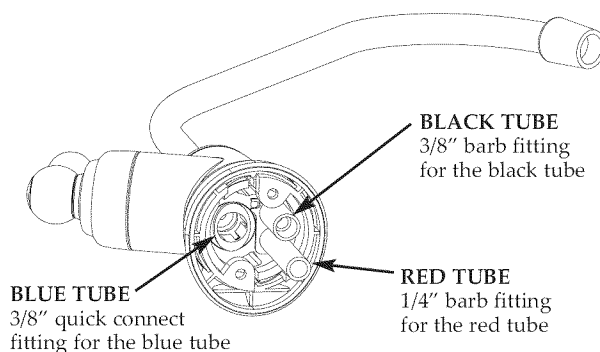

Figure 15
4. Locate the faucet base. The black and blue tubes are already connected to the faucet. Insert these tubes into the sink hole until approximately one foot of tube length and the faucet base are left above the counter surface. Do not bend or kink the tubes in the process. See Figures 15 and 21.
C. Insert all the way onto the 1/4" faucet barb fitting on faucet. See Figure 15.